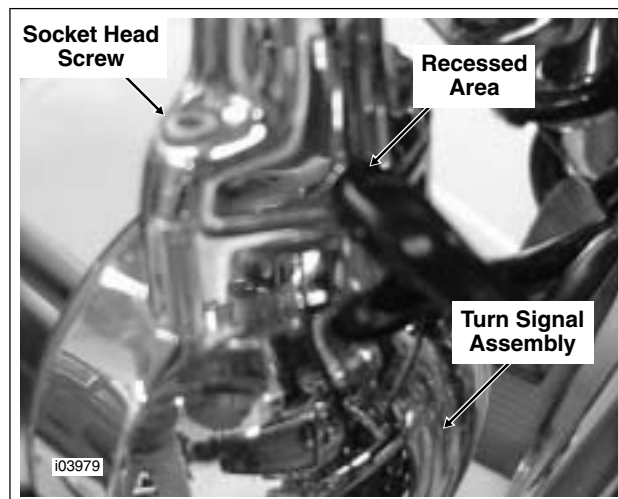

Figure 8-16. Install Turn Signal to Mounting Bracket
16. See Figure 8-16. Make sure conduit rests in the recess of the clamp area as shown. Install the left turn signal assembly to the mounting bracket using two socket head screws. Tighten screws securely.